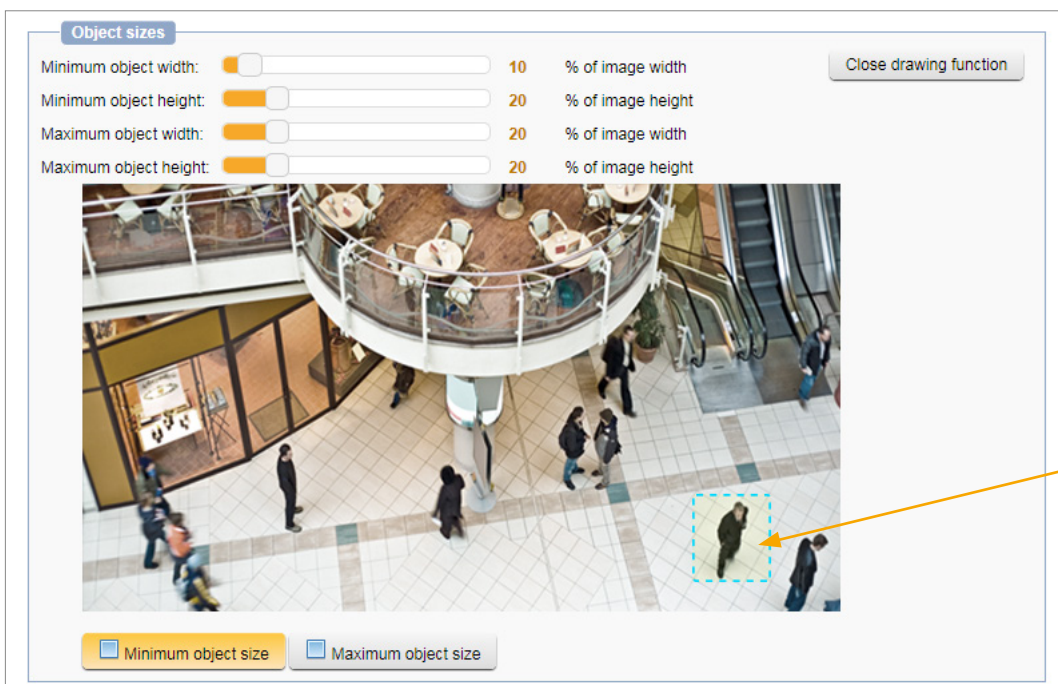

Fig. 11-5
- ⇒ Click and hold the left mouse button down, then draw a rectangle for the minimum required object size by dragging the mouse pointer around a reference object of interest (see the arrow in Fig. 11-5).